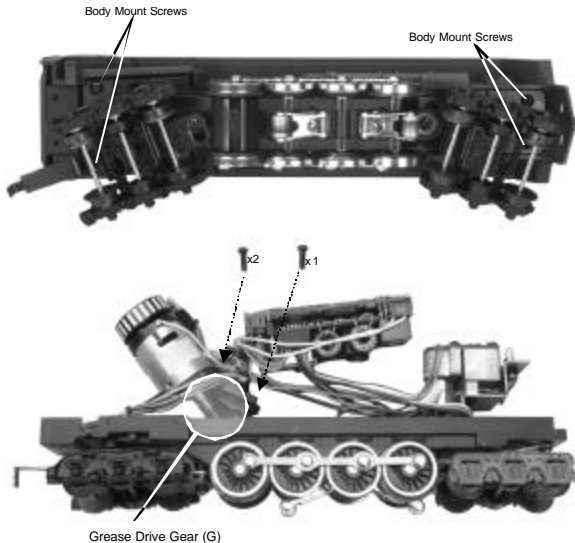

Figure 11. Locations of Body Mount Screws and Diagram for Greasing the Drive Gear
1. Unscrew the body mount screws as shown in Fig. 11 and remove the boiler.